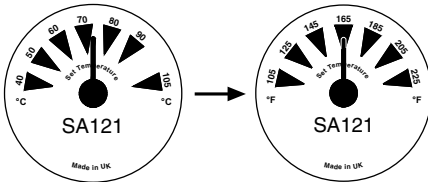

Fig. 3
1. Remove the tamper-proof plug (6) and use a suitable screwdriver to set the indicator (3) to the midway mark (1).
2. Remove the transparent cover (2).
3. Remove the temperature indicator (3).
4. Remove the temperature indicator scale (4) and select °C or °F (Double sided) as required (Figure 3) and replace.
5. Replace the indicator to the midway position (1).
6. Replace the transparent cover (2).